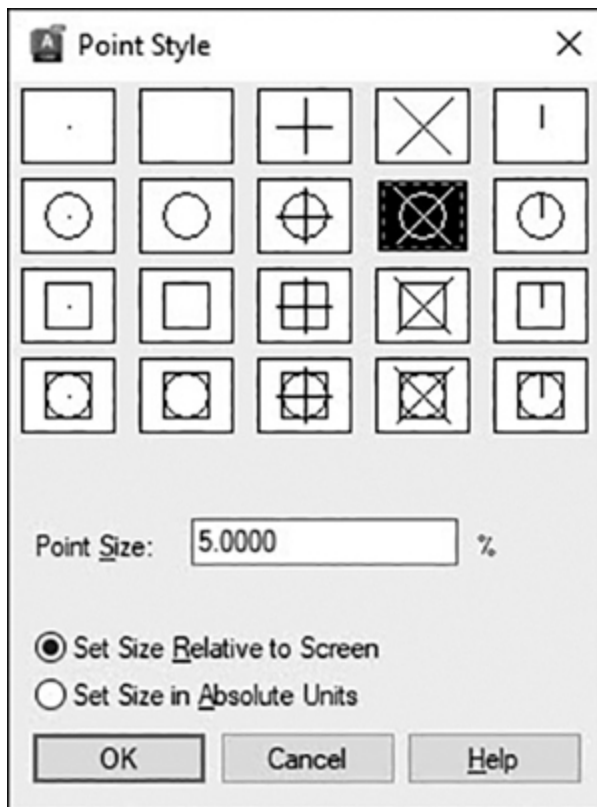

Figure 4-31
- 3 Choose the point style shown in Figure 4-31 and choose **OK** to close the dialog box.